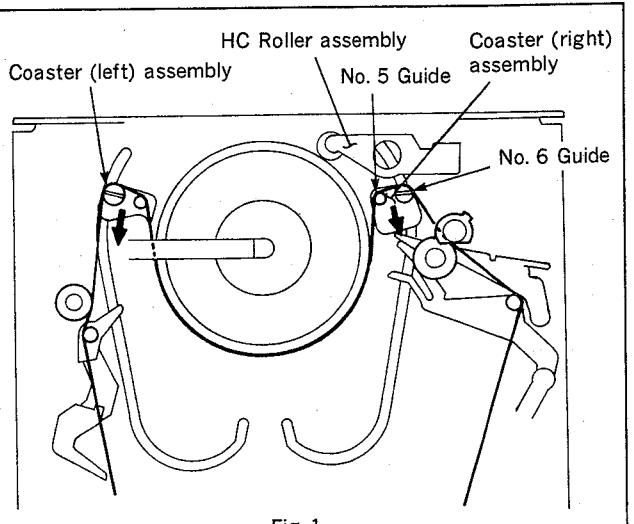

Fig. 1
8. Operate the [F FWD] or [REW] button on the top panel to unthread. (Press the [STOP] button to stop unthreading.) Move that No. 5 and No. 6 guides of the coaster (right) assembly in order to be placed as shown in the Fig. 1. Check that the No. 5 and No. 6 guides are not under the HC roller assembly.
2. Touch two clips of the mode selector to the terminals of the loading motor. (Fig. 4) Operate the [LOAD] or [UNLOAD] button of the mode selector to unthread. Move that No. 5 and No. 6 guides of the coaster (right) assembly in order to be placed as shown in the Fig. 1. Check that the No. 5 and No. 6 guides are not under the HC roller assembly.
4. Turn the worm gear of the loading motor in the direction of the arrow with a thin rod etc.. (Fig. 5) Move that the No. 5 and No. 6 guides of the coaster (right) assembly in order to be placed as shown in Fig. 1. Check that the No. 5 and No. 6 guides are not under the HC roller assembly.